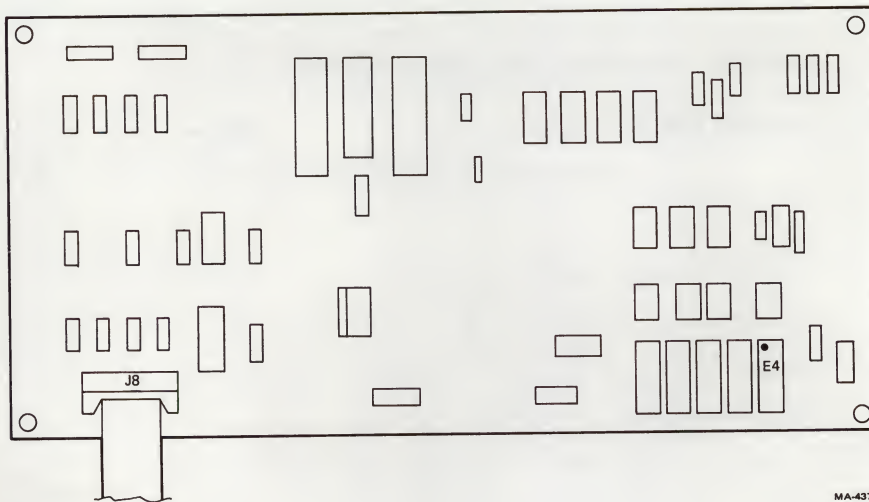

Figure 5-3 Option ROM Chip Installation
3. Attach the expanded buffer option module standoffs to the expanded buffer module (Figure 5-3).
3. Remove standard ROM chip from logic board at location E4 (Figure 5-3) as follows: alternately insert tip of small, flat-blade screwdriver (or corner of keycap puller) between chip and receptacle at top and bottom ends. Turn tool slightly at each end until pins are free. Do *not* use rocking motion while removing chip.